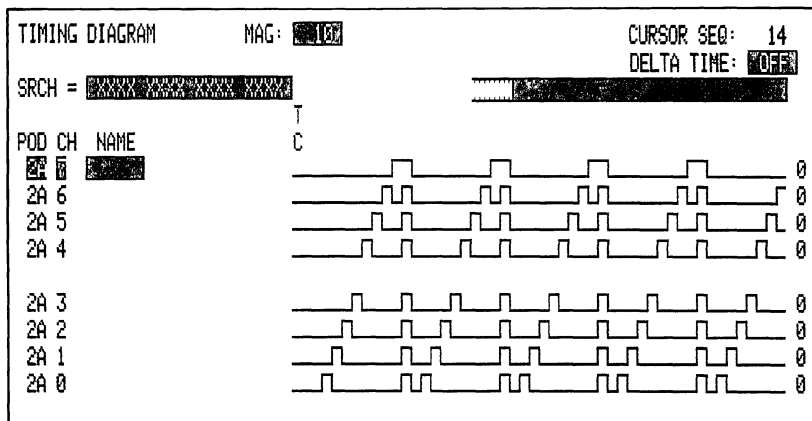

Figure 5-28. 91P16 data output test.
4. Set the magnification of the Timing Diagram to 10; this should show a display like Figure 5-28. The actual position of the cursor and trigger will depend on the type of acquisition module used. A 91A08 should trigger on sequence 18 and a 91A32 should trigger on sequence 14.
8. The data acquired should match Figure 5-28.
8. Set the magnification of the Timing Diagram to 10; this should again show a display like Figure 5-28. The actual position of the cursor and trigger will depend on the type of acquisition module used. A 91A08 should trigger on sequence 18 and a 91A32 should trigger on sequence 14.
12. The data acquired should match Figure 5-28.